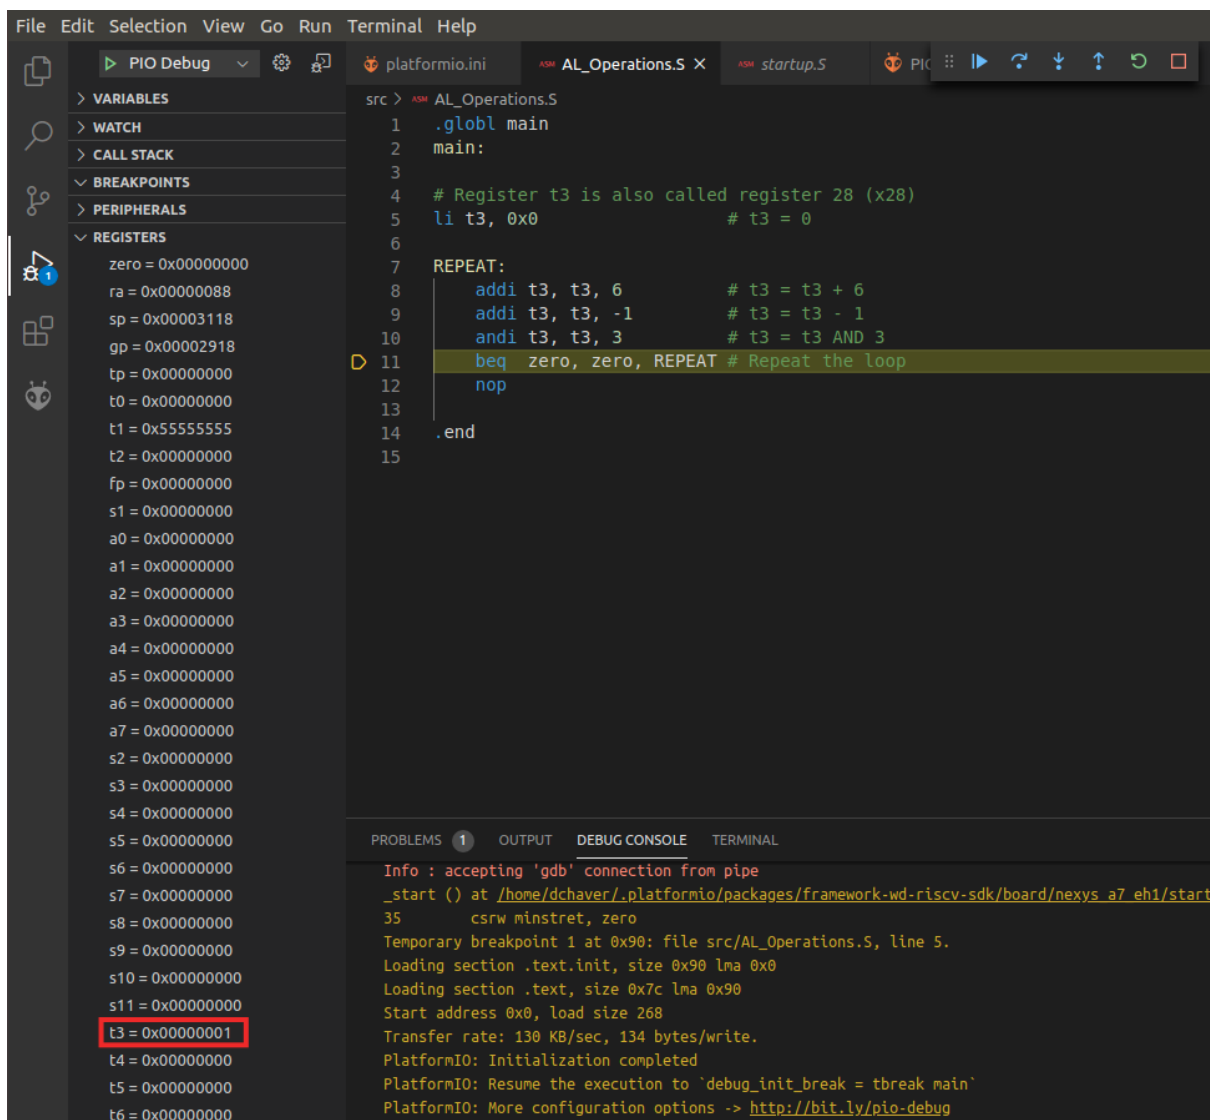

Figure 108. Viewing register contents
7. Expand the Registers option in the Debugger Side Bar and continue the execution step-by-step . You will observe that register `x28` (also called `t3`, as shown in the REGISTERS section) stores the results of the three arithmetic-logic operations: *addition*, *subtraction*, and *logical AND*. See Figure 108.